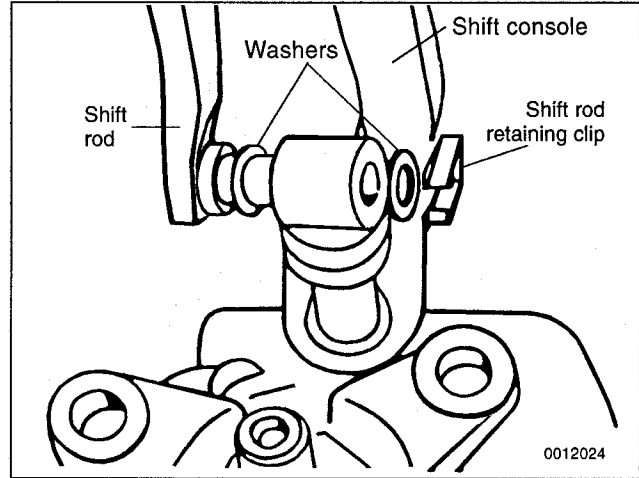

Fig. 11. Shift lever to transmission connection.
8. Disconnect shift rod from transmission selector shaft. See Fig. 11.